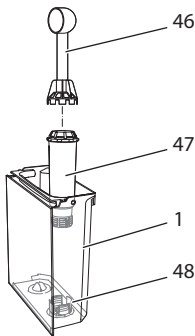

Fig. 25: Screwing/unscrewing the water filter
- Remove the water filter when the appliance requests you to do so (see Fig. 25, page 61).